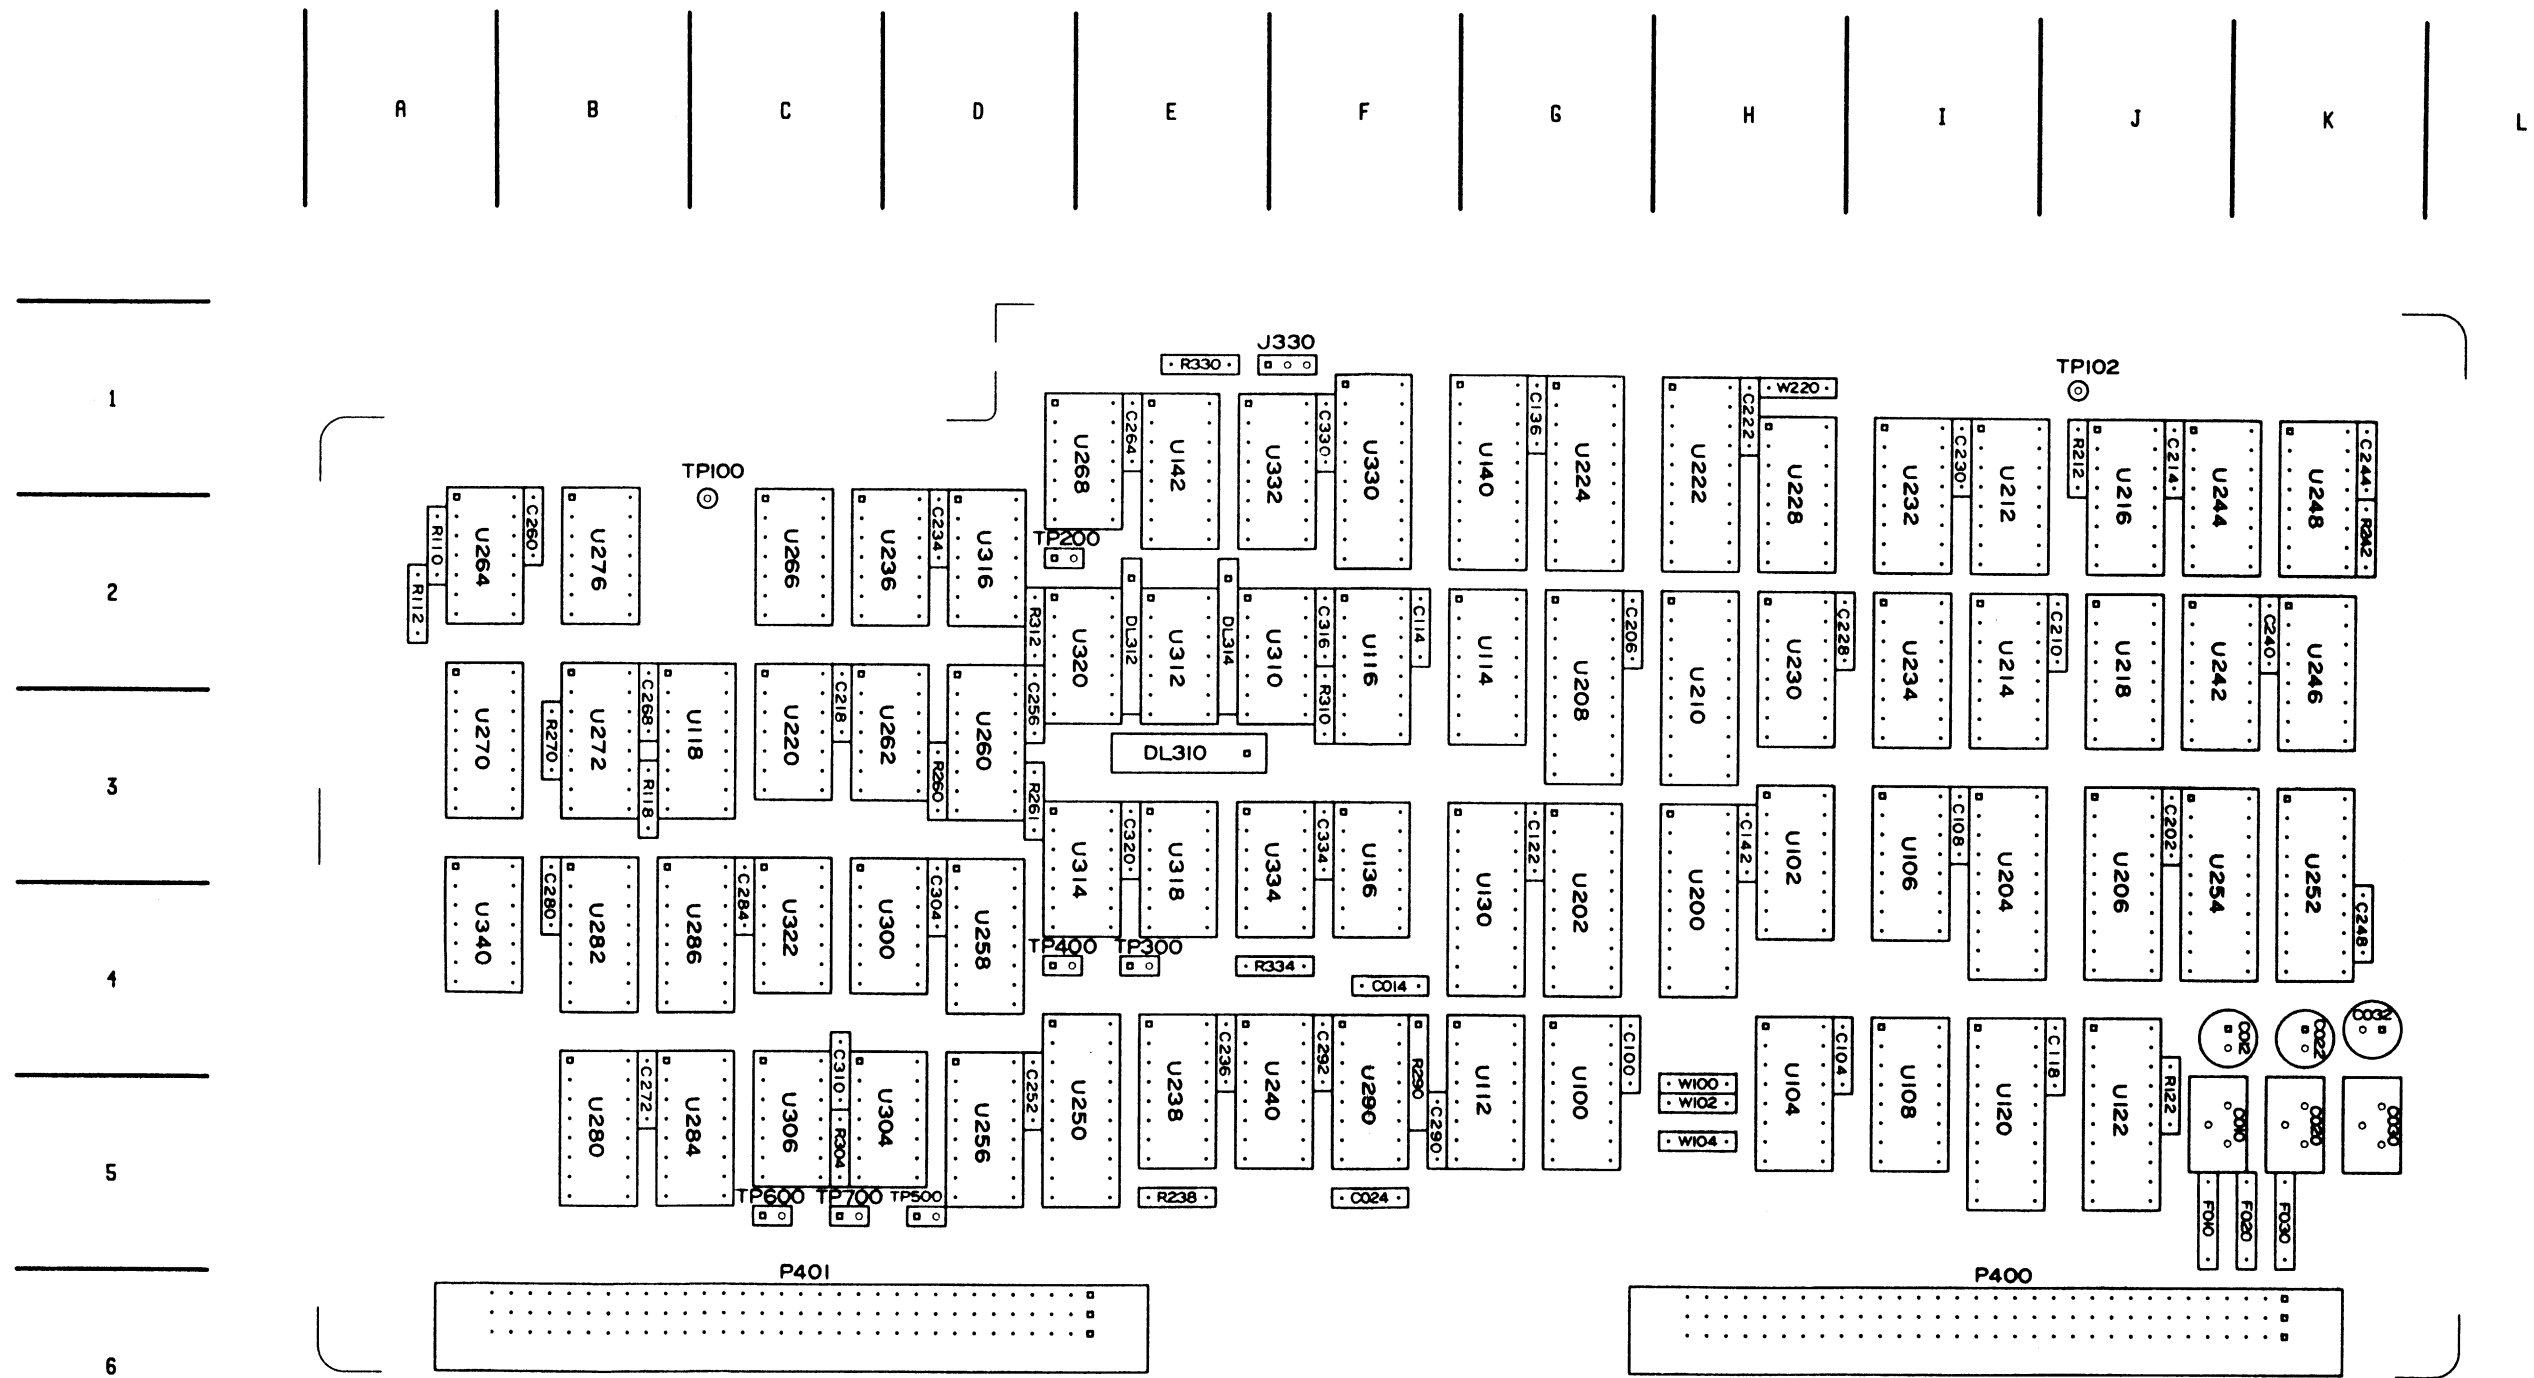

Fig. 8-11. A40 ADDRESS GENERATOR BD., CIRCUIT BD. ASS.
**ASSY A40 (Fig.8-11) circuit board illustration faces Diagram 35.**
ASSY A40 (Fig.8-11) circuit board illustration faces Diagram 35.